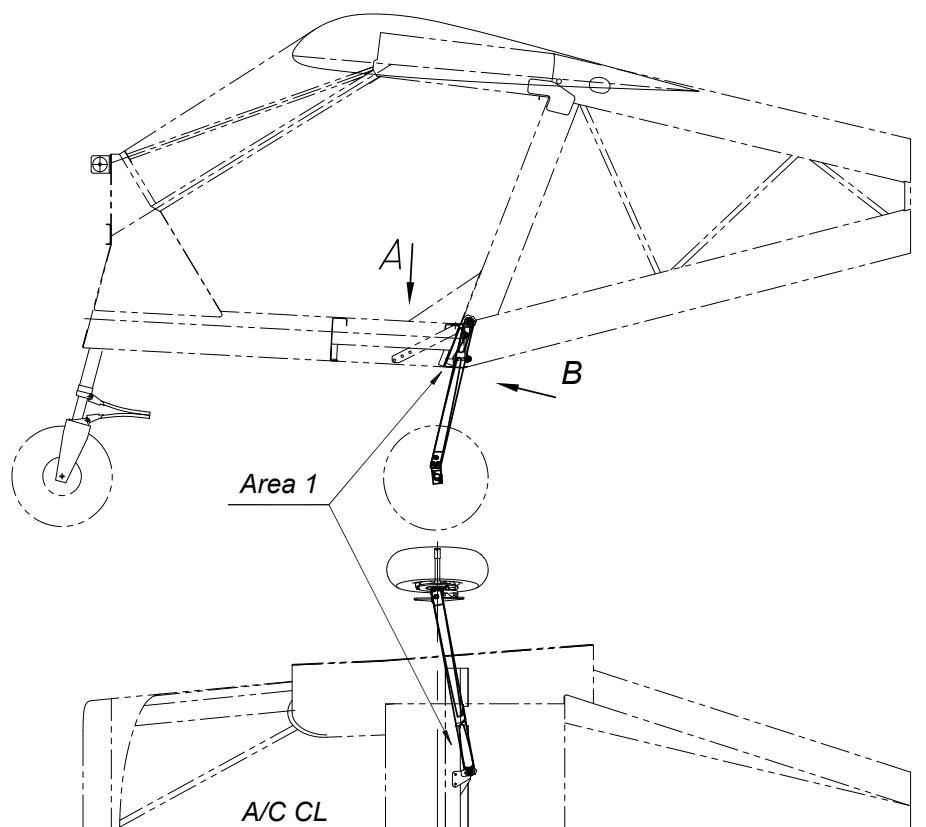

Fig. 1
3. Lift the airplane on supports in the specified area 1 along entire length of the MLG beam (see fig.1) putting a soft pad underneath the fuselage to avoid damaging the corrugations on the fuselage bottom.